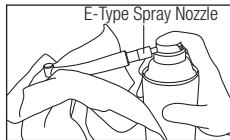

Fig. 13
- 3) Hold the handpiece, and spray for 2 or 3 seconds until oil comes out of the handpiece head (Fig. 13). Repeat lubrication until foreign material stops coming out of the tip.